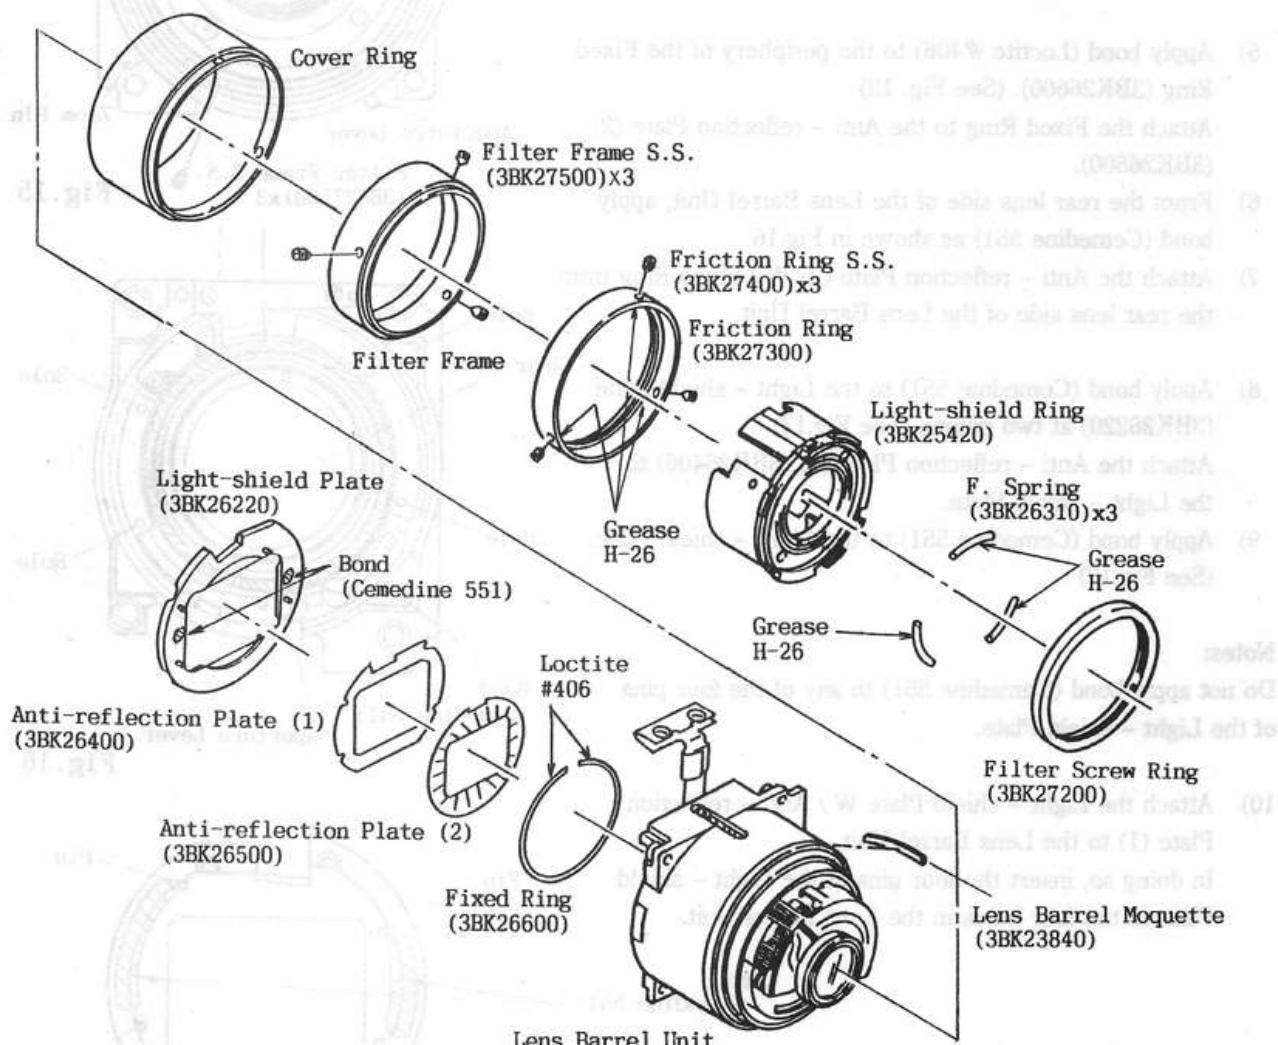

Fig.13
- 5) Apply bond (Loctite #406) to the periphery of the Fixed Ring (3BK26600). (See Fig. 13)
- 7) Attach the Anti - reflection Plate (2) W / Fixed Ring from the rear lens side of the Lens Barrel Unit.
- 8) Apply bond (Cemedine 551) to the Light - shield Plate (3BK26220) at two points. (See Fig.13)